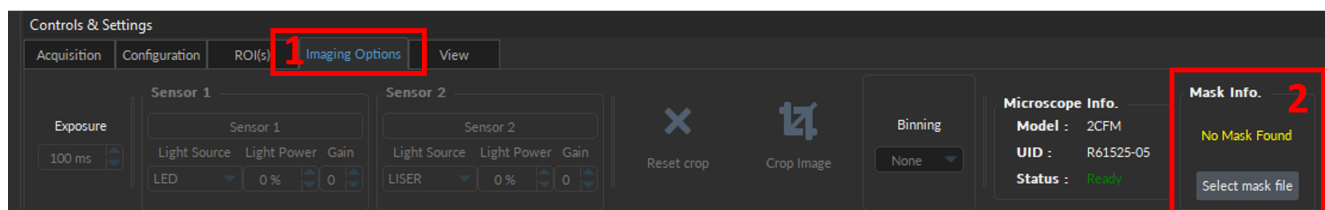

Figure 7.42: Add Mask in the Imaging Options tab
2. Open the software and connect the *Microscope Driver*. Then navigate to the **Imaging Options** tab and click **Select Mask File** (Fig. 7.42). This opens a file selection window. Travel to the location of the mask file, select it and click **OK**.